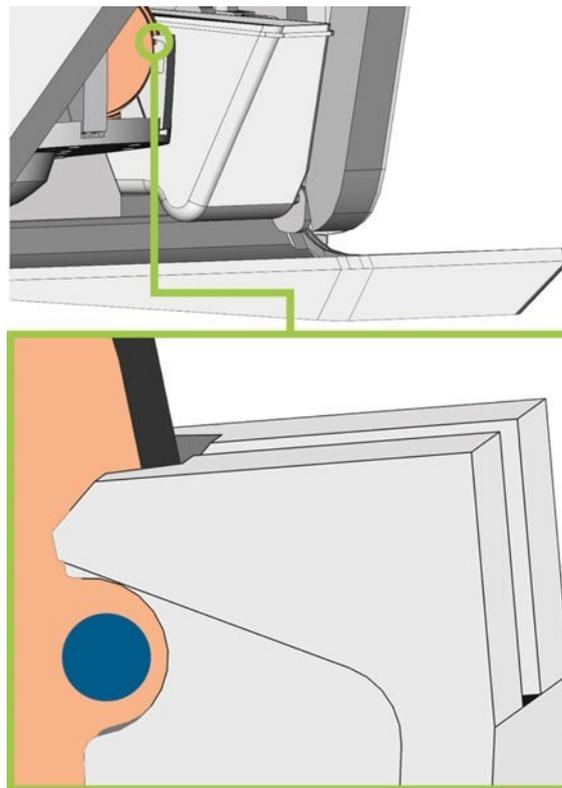

FIG. 53 – THE MARKING FOR REMOUNTING (BLUE CIRCLE) LIES IN THE OPENING IN THE CLAMPING LEVER
- 10. Discs: If the disc has been marked for remounting, slightly rotate the disc until the marking lies in the corresponding opening in the clamping lever (□ Fig. 53 – see below).**